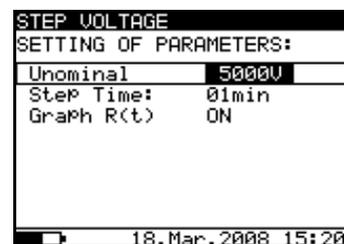

Fig. 24. Set-up menu in Step Voltage Test
- Press the **SELECT** key, (the Set-up menu (**Fig. 24**) will appear on the display);